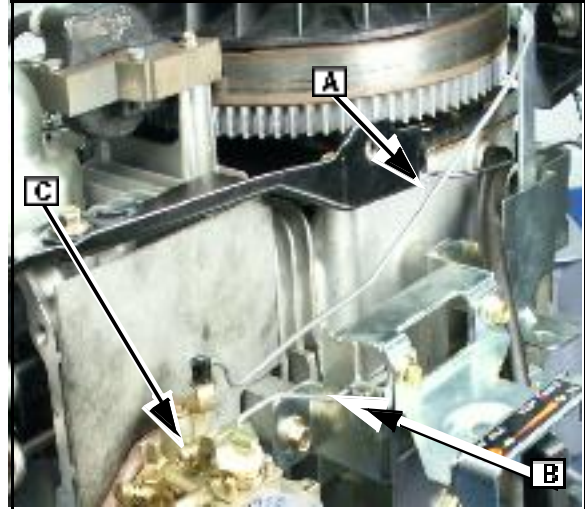

Fig. 28
14. Connect governor link (A) and Choke-A-Matic link ([B] if installed). Slide
- carburetor assembly ([C] Fig. 28) on mounting studs.